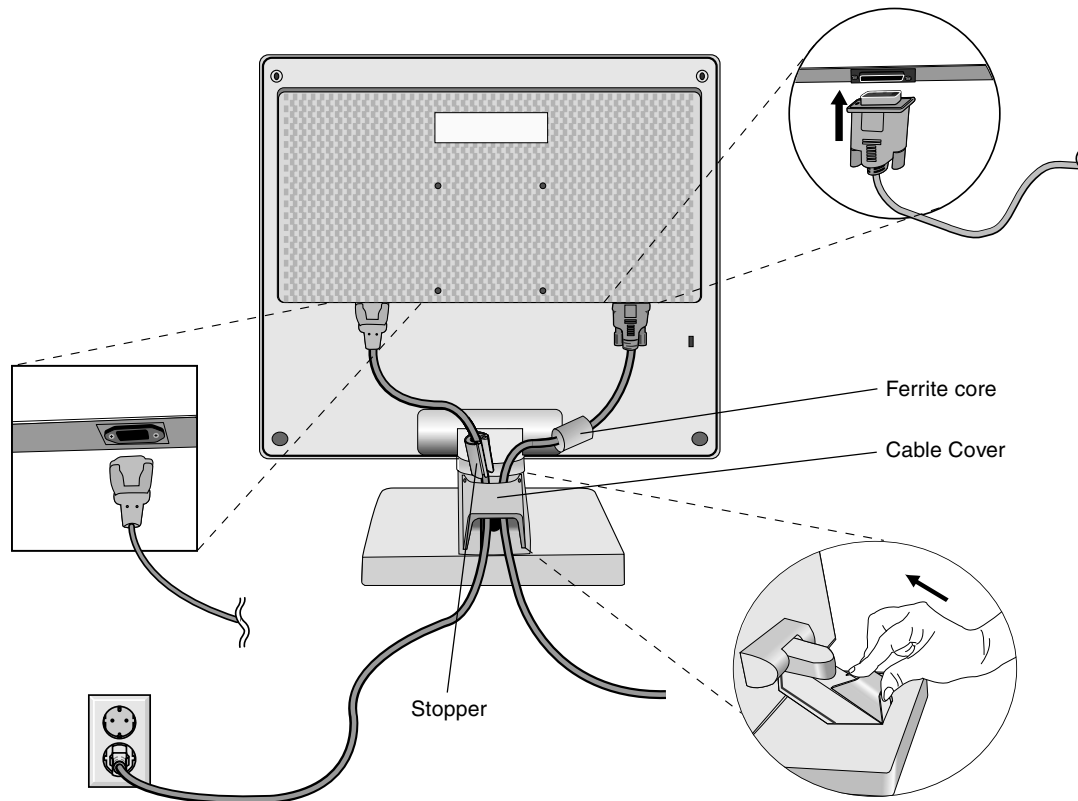

Figure C.1
4. Connect the 15-pin mini D-SUB of the video signal cable to the appropriate connector on the back of the monitor (**Figure C.1**).
5. Connect one end of the power cord to the LCD1701 monitor and the other end to the power outlet. Place the video signal cable and AC power cord under the cable cover (**Figure C.1**). Replace cable cover.
NOTE: Adjust the position of the cable under the cable cover to avoid damage for cable or monitor. As indicated (**Figure C.1**) please adjust the cables to place the ferrite core and stopper above the cubic cover.